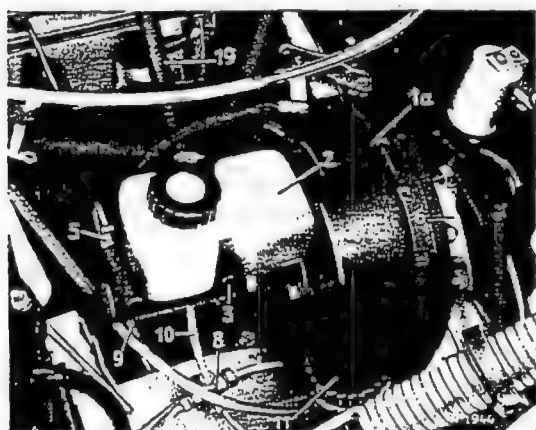

Fig. 42-3a/11
2. Pump the brake fluid out of the reservoir (2) via an opened bleed screw in the front wheel and rear wheel brake circuits, making sure that both chambers of the reservoir are emptied (Fig. 42-3a/11).